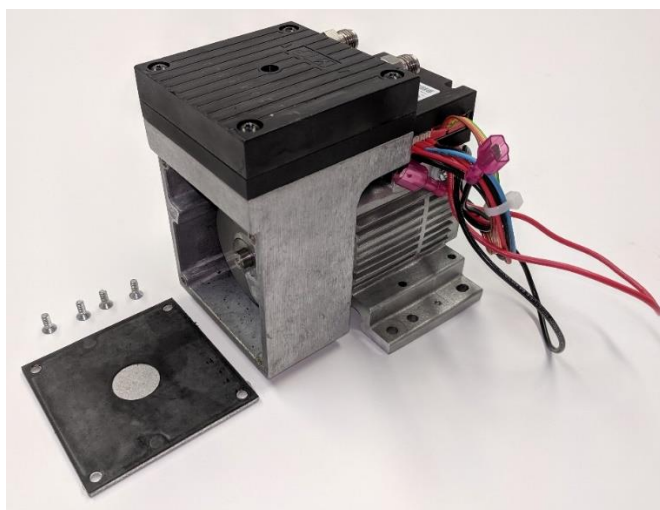

Figure 73: Vacuum Pump with Side Cover Plate Removed
2. Remove the four corner screws holding the side cover plate in place and pull the side cover plate off. This will expose the side compartment containing the counterweight and connecting rod. See Figure 73.